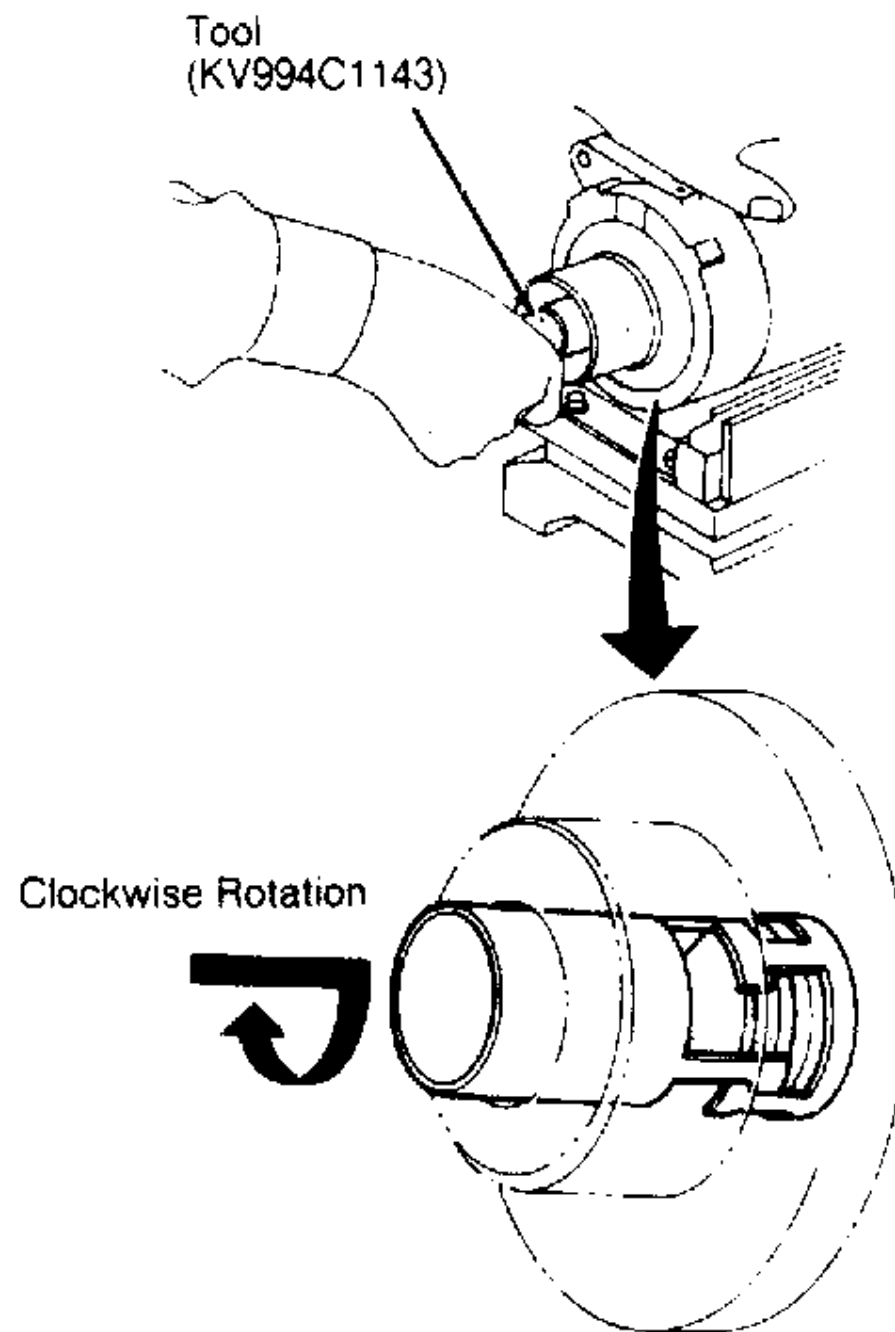

Fig. 11: Hitachi 6-Cylinder Compressor Shaft Seal Removal
3. Insert Adapter (KV994C1552) into hole in middle of blind cover at low pressure side of compressor. Connect Pressurizer (KV994C1552) to can of R-12 refrigerant. Wrap a rag around compressor shaft. Apply pressure of 28-71 psi (2-5 kg/cm²) at low pressure (suction) service valve of compressor. Catch shaft seal seat in rag. See **Fig. 11**.
4. Insert shaft seal Remover/Installer (KV994C1143) through the open end of front cover. Depress carbon seal and hook tool at case projection of shaft seal. Slowly pull out to remove shaft seal. See **Fig. 11**.